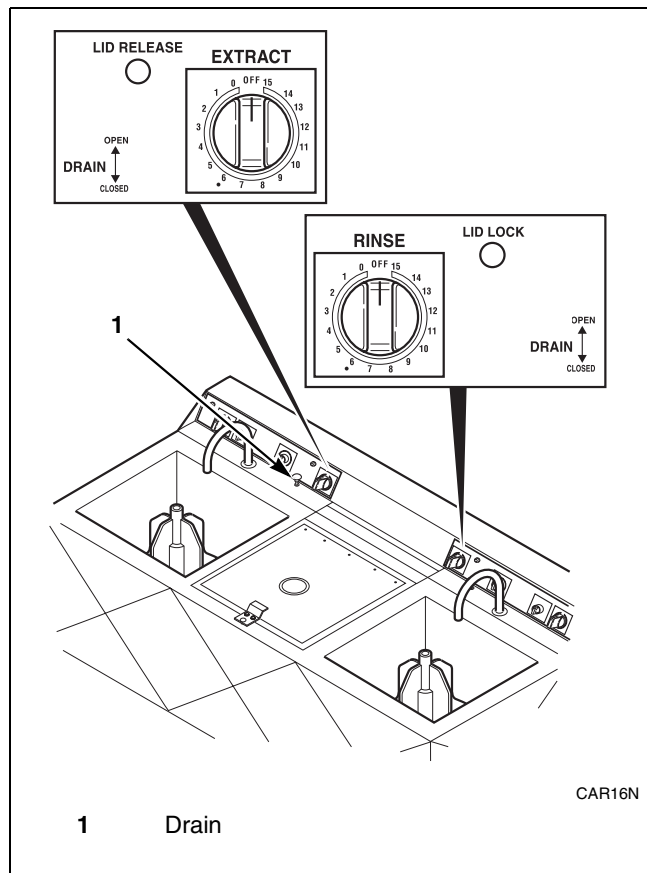

Figure 15
10. Set extract timer and rinse timer to desired cycle times. Refer to *Figure 15*. Refer to *Table 8* for recommended rinse and extract times.
11. When cycle is complete, wait until basket stops, then press LID RELEASE button to open lid. Refer to *Figure 15*.